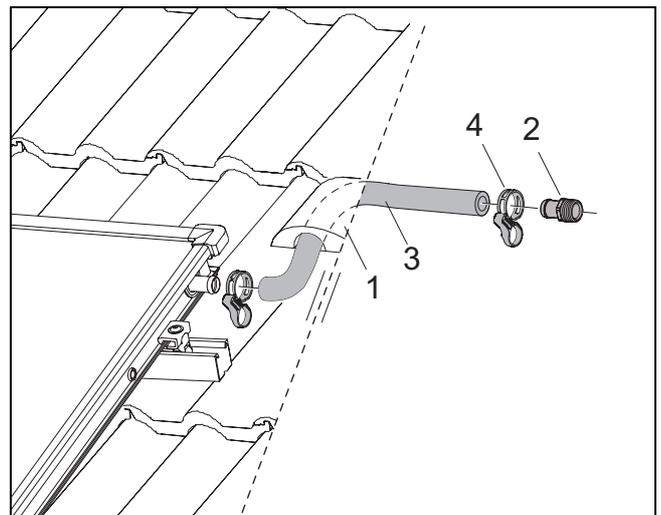

Fig. 48 Assemble the flow pipework (without purging device on the rooftop)
- ▶ Connect the solar hose (1000 mm, Fig. 48, [3]) to the collector array flow connection and secure with hose clip (Fig. 48, [4]).
- ▶ Fit the end of the hose into the solar hose with the threaded locking ring (Fig. 48, [2]) as far as it can go and secure with hose clip.
- ▶ Connect the collector pipe to the end of hose R $\frac{3}{4}$  with threaded locking ring (18 mm) (Fig. 48, [2]). Follow the same procedure for the return connection.